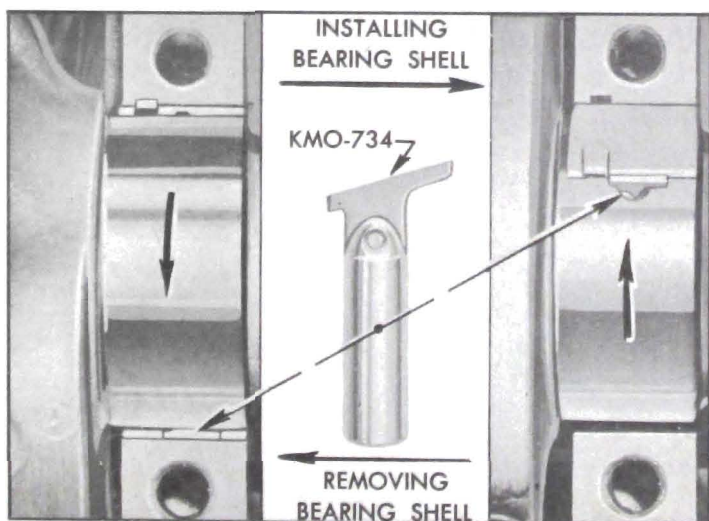

Figure 2-29—Removing and Installing Crankshaft Bearing Upper Shell
2. Remove upper bearing shell by inserting Bearing Shell Remover and Installer KMO-734 in oil hole in crankshaft, then slowly turning crankshaft so that the tool rotates the shell out of place by pushing against the end without the tang. See figure 2-29. CAUTION: *When turning crankshaft with rear bearing cap removed hold oil seal to prevent it from rotating out of position in crankcase.*